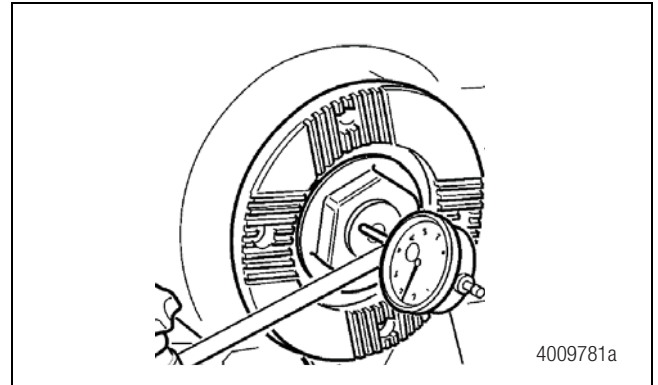

Figure 5.10
12. Use a pry bar to pull outward on the companion flange and record the shaft movement. End play must be 0.001-0.004-inch (0.025-0.102 mm). Figure 5.10.